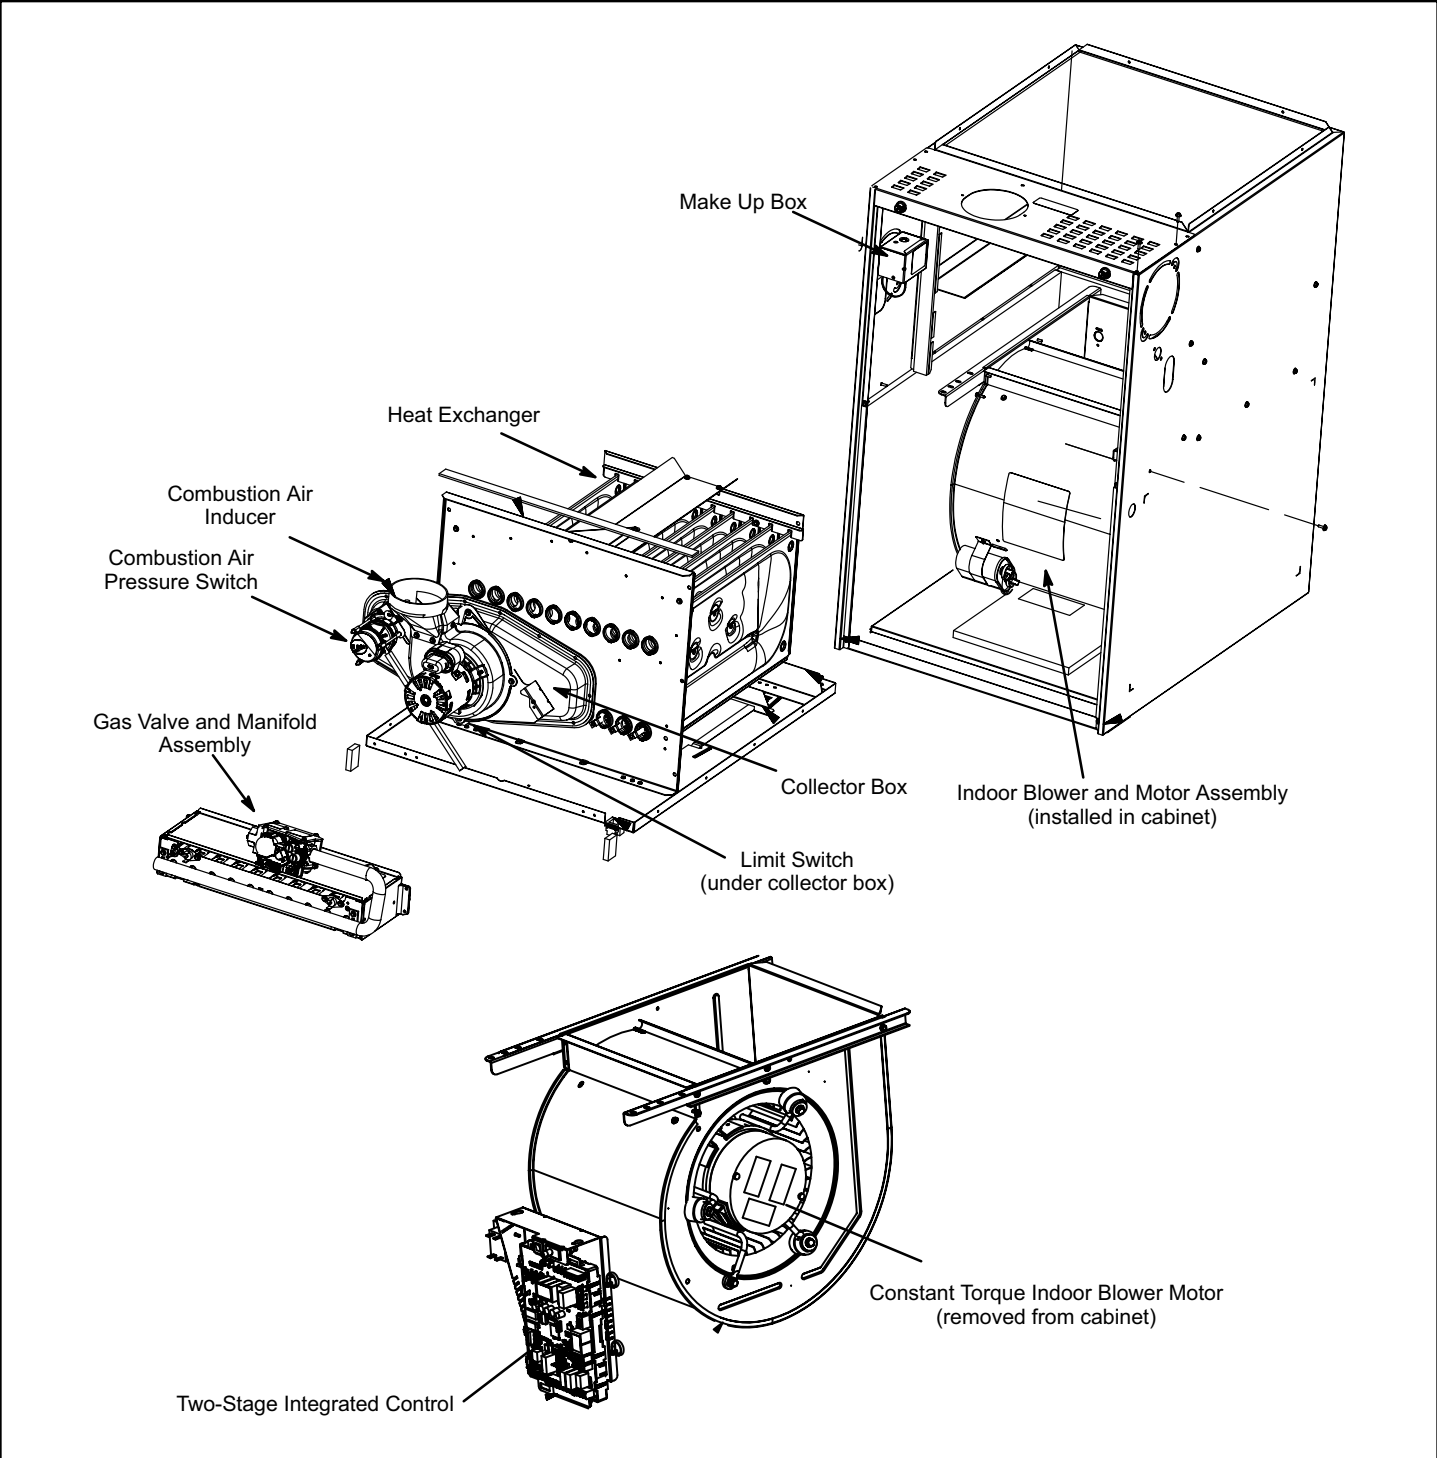
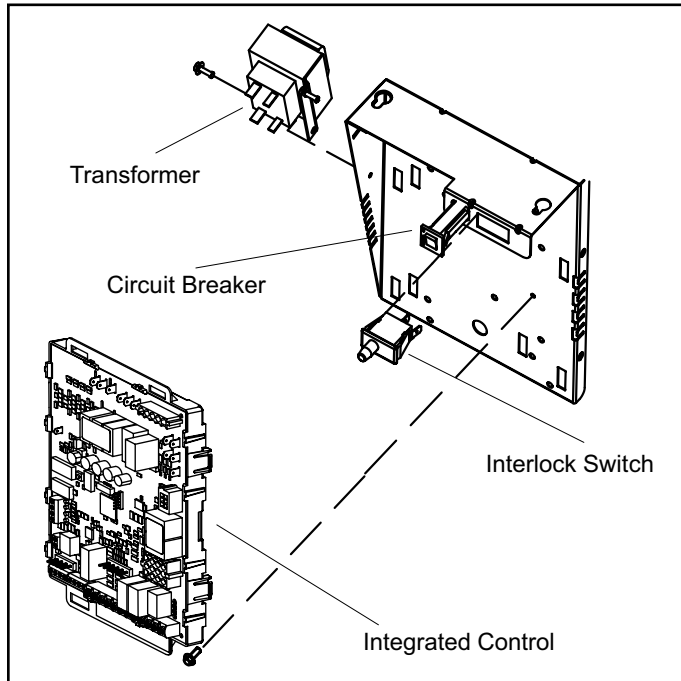

Figure 1.
Figure 2. Control Box
A80UH2E / 80G2UHE(L) unit components are shown in Figure 1. The gas valve, combustion air inducer and burners can be accessed by removing the access panel. Electrical components are in the control box (Figure 2) found in the blower section.
#### Control Box Components (Figure 2)